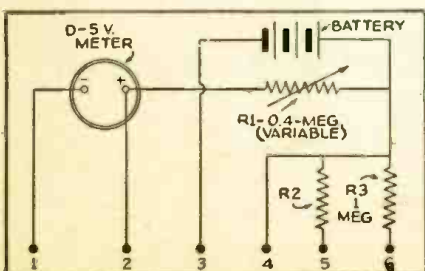

Fig. 5. Versatile home-made test meter.
**HOME-MADE VERSATILE TEST METER.** Here is my pet circuit of a very useful instrument which can be used in many different ways. Am submitting it as a circuit short-cut in your contest. See Fig. 5.